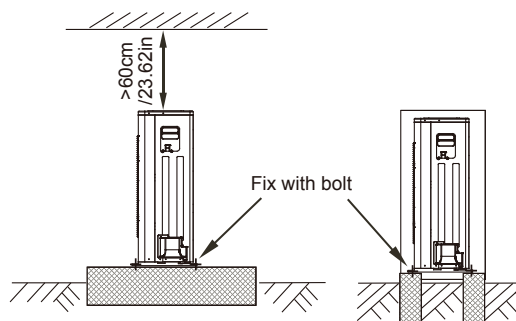

Fig.5.15
- Fasten the feet of this unit with bolts firmly to prevent it from collapsing in case of earthquake or strong wind. (Refer to **Fig.5-15**)